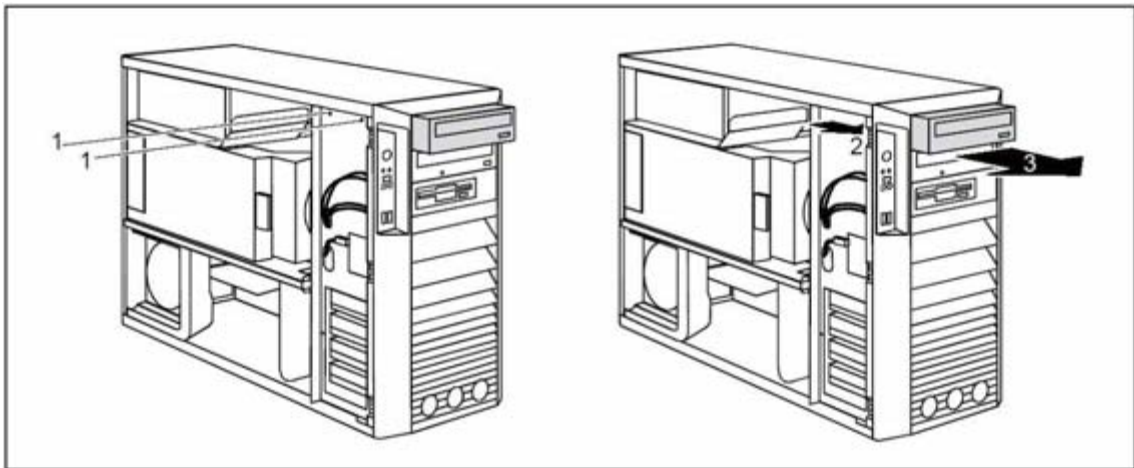

Fig. 53: Replacing the drive M450_
5. Loosen the screws (1/ Fig. 53 / p. 98).
6. Slide the drive out of the bay in the direction of the arrow (2/ Fig. 53 / p. 98) from behind. The drive now jumps out slightly out of the casing.
7. Slide the drive out of the casing (3/ Fig. 53 / p. 98).